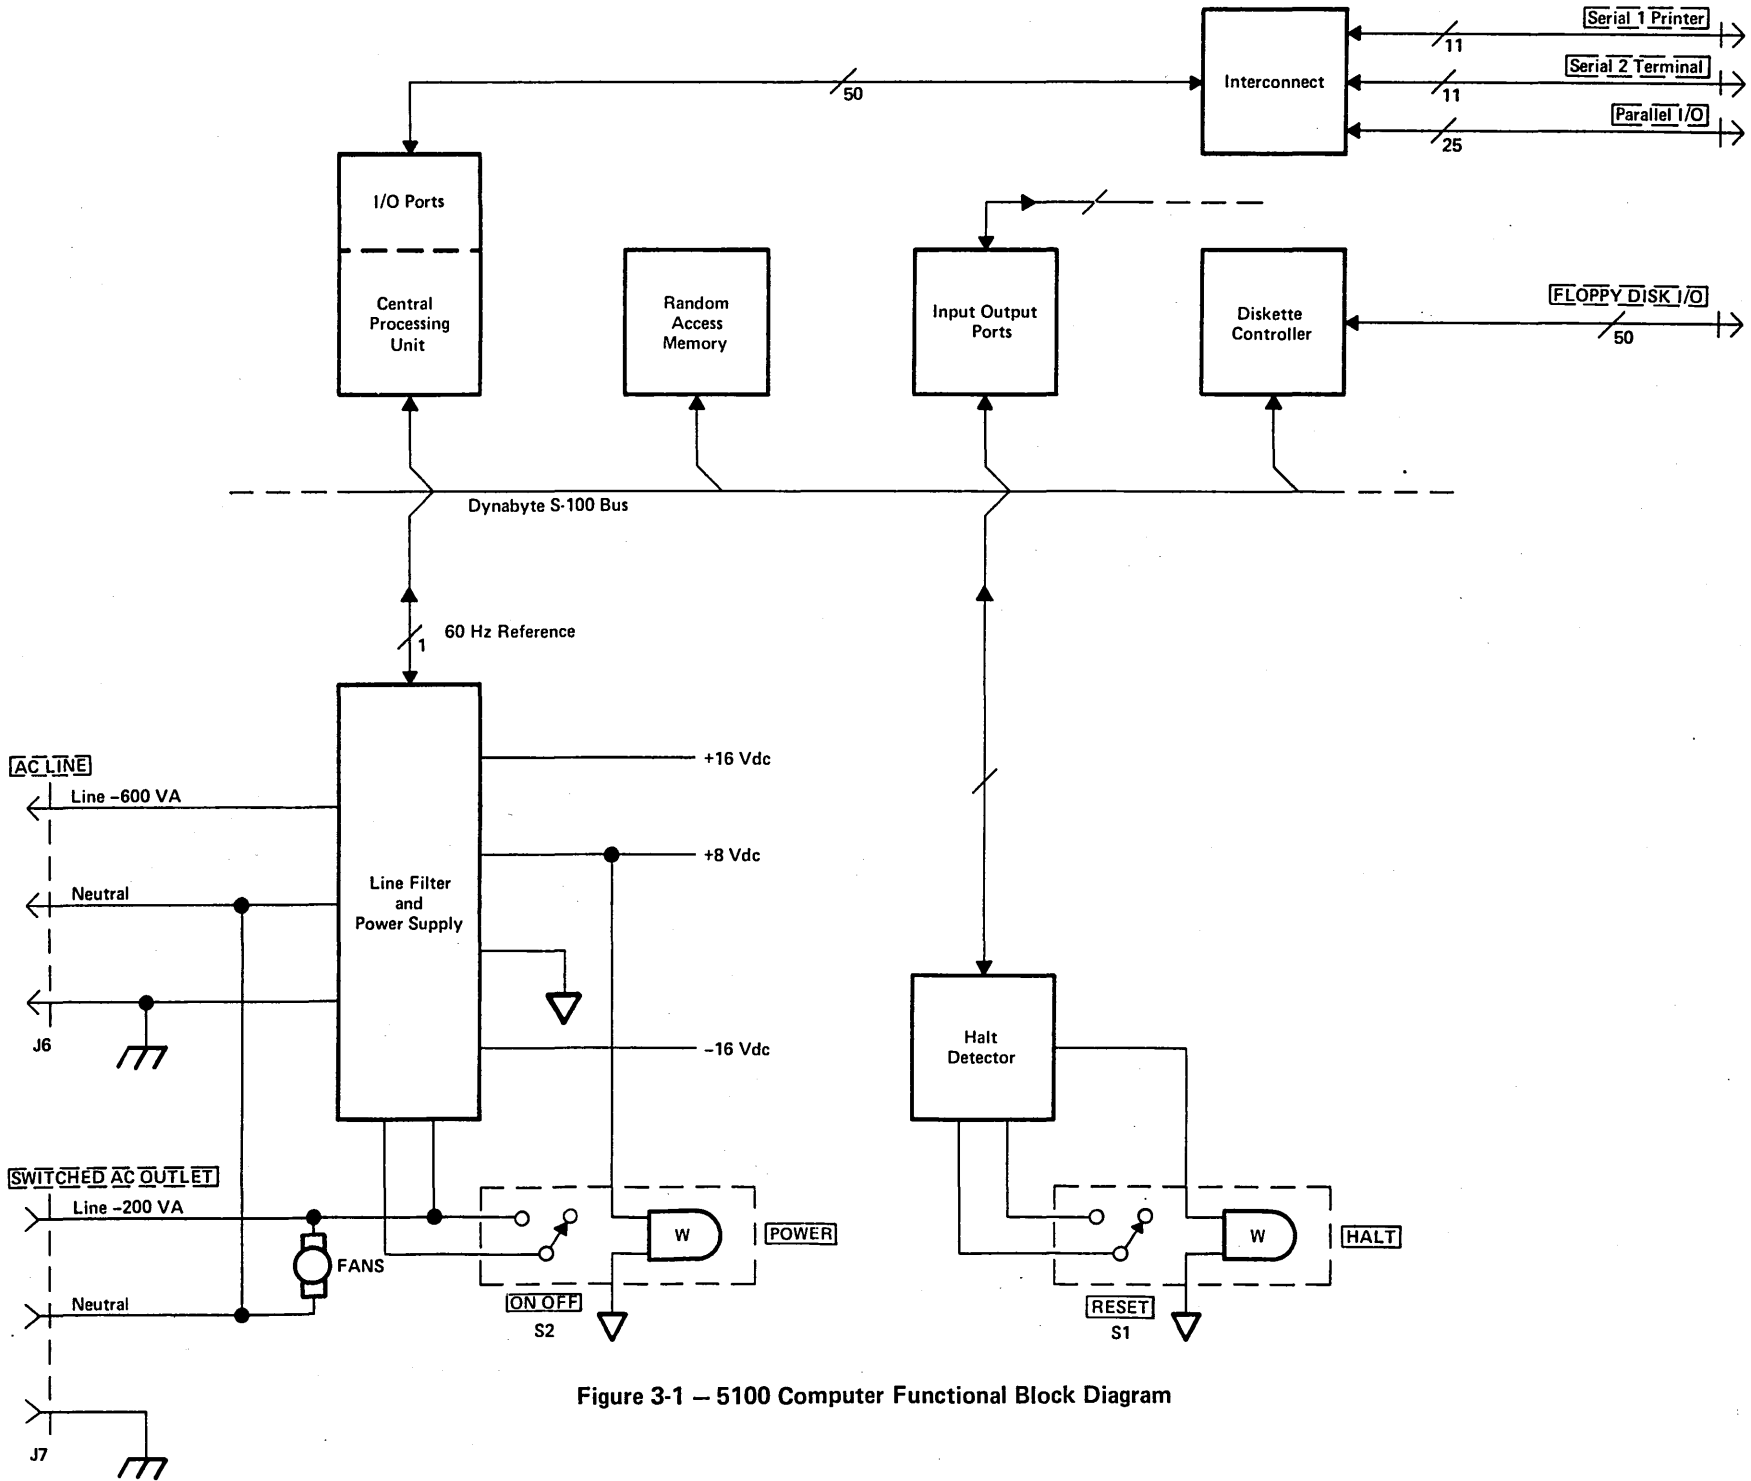

Figure 3-1 – 5100 Computer Functional Block Diagram
3.02 Figure 3-1 illustrates the 5100 Computer in block diagram. It should be used in conjunction with the schematic diagrams in Part 7 to familiarize the user with the circuits. The 5100 Computer chassis can be divided into three logical sections: